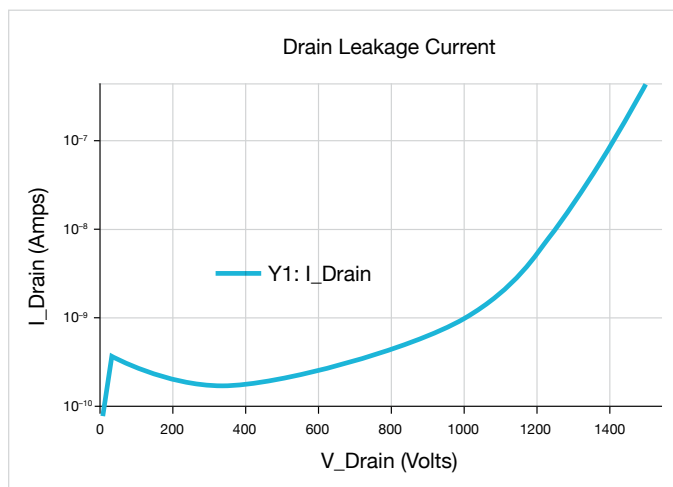

Figure 8. A look at the drain leakage current as the drain voltage is swept while the transistor is in the OFF state.
**Figure 8** is a plot of OFF-state drain voltage vs. drain current results for a commercially available SiC power MOSFET.